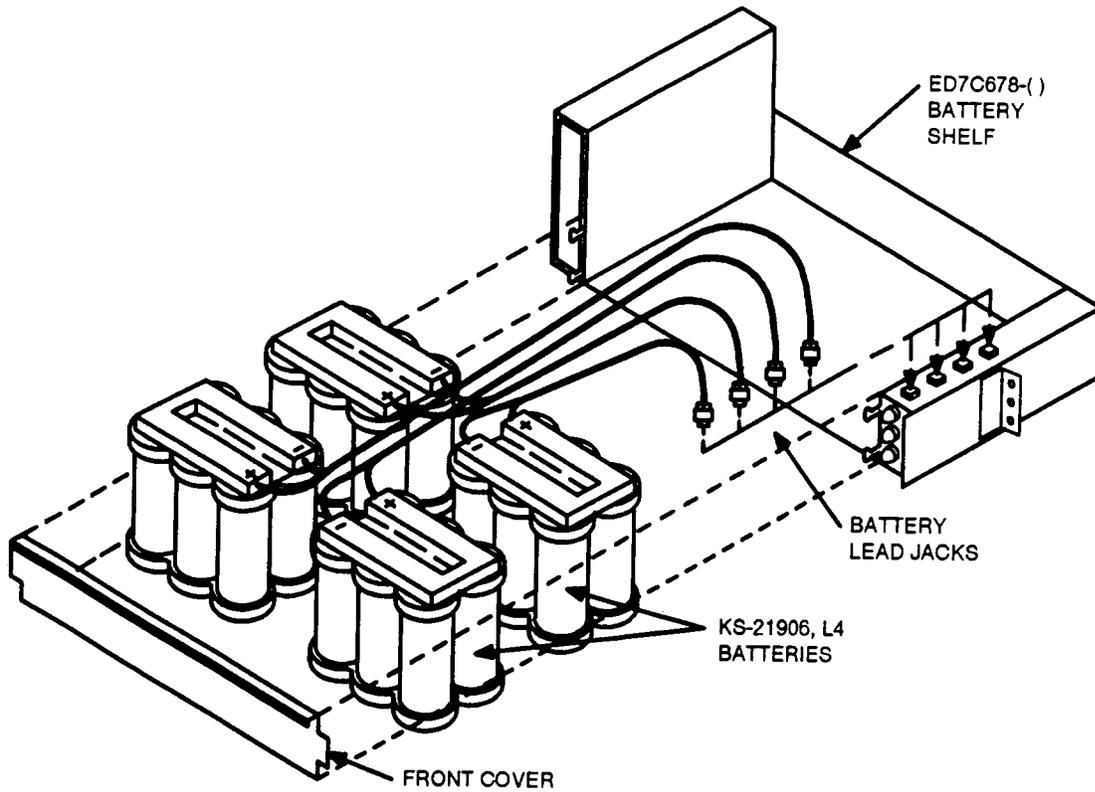

Figure 3 — Battery Placement and Connections
23. Place batteries on battery shelf and dress battery cables as each battery pack is placed on shelf (Figure 3).